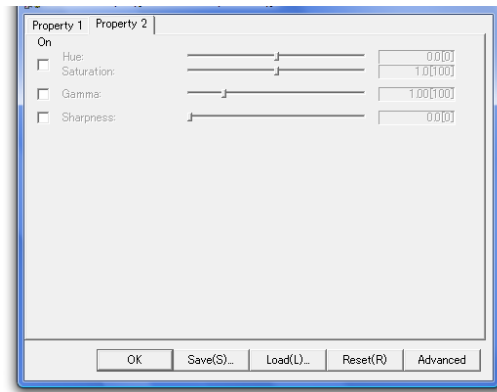

Figure 26: Settings Simple Menu Property 2 Tab
2) Menu Bar (Refer to the bottom of Figure 26 on Page 24).